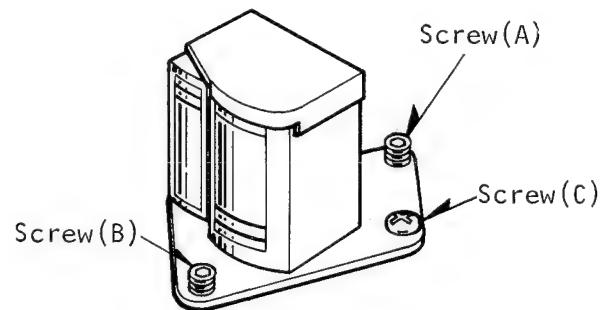

Fig.M91. Height Adjustment of A/C Head
- Adjust the height of 2 hex. screws (A), (B) and the screw (C) shown in the Fig. M91 to obtain the maximum output level.
2. While playing back the monoscope portion of the alignment tape VFM8080H6, adjust the 2 hex. screws (A) and (B) shown in Fig. M91 for maximum RF envelope on the scope.